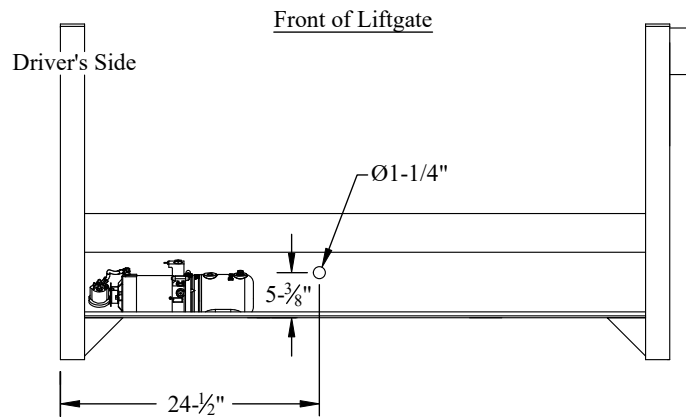

Figure 14: Spare tire access.
2. **Remove and Discard** the black plastic plug(s) from the mainframe in the location shown (Figure 14).